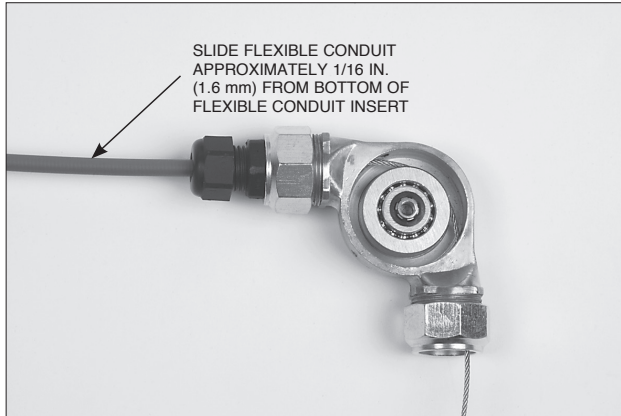

FIGURE 5-68
7. Slide the flexible conduit into the strain relief until it is approximately 1/16 in. (1.6 mm) from the bottom of the flexible conduit insert. See Figure 5-68.